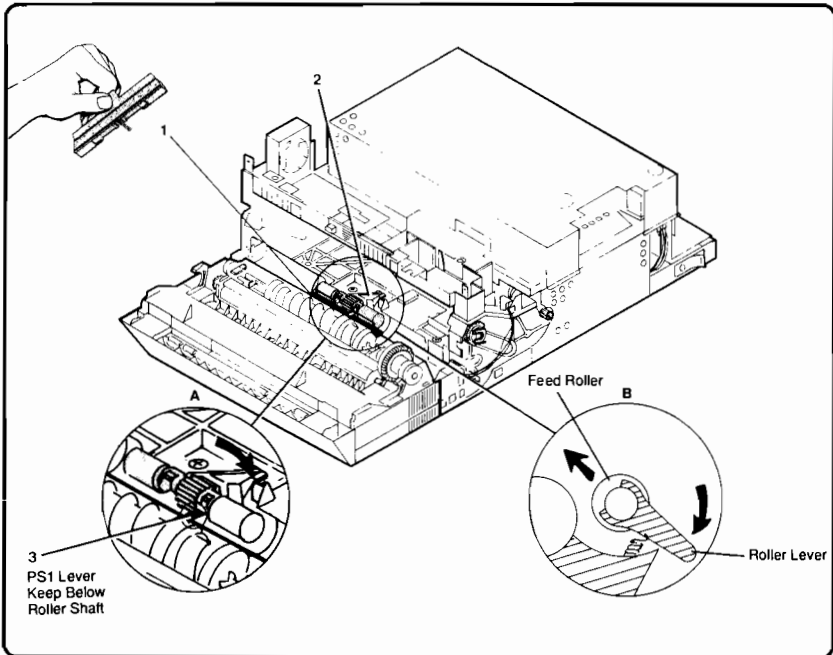

Figure 6-37. Separation Pad & Input Feed Roller Removal
2. Remove the cork Separation Pad with its spring attached by grasping the clear mylar strip and firmly pulling straight up (Figure 6-37, callout 1).
3. Press down on the rear of the Input Feed Roller Lever (Figure 6-37, callout 2 and detail A).
4. Pull forward on the Input Feed Roller to remove it from the lever assembly (Figure 6-37, details A and B).
The Input Paper Sensor (PS1) Lever must be below the Input Feed Roller Shaft when installing the roller (Figure 6-37, detail A, callout 3).
This procedure is for replacing the entire Input Feed Roller Assembly. To replace the Input Feed Roller only, refer to Figure 6-37.